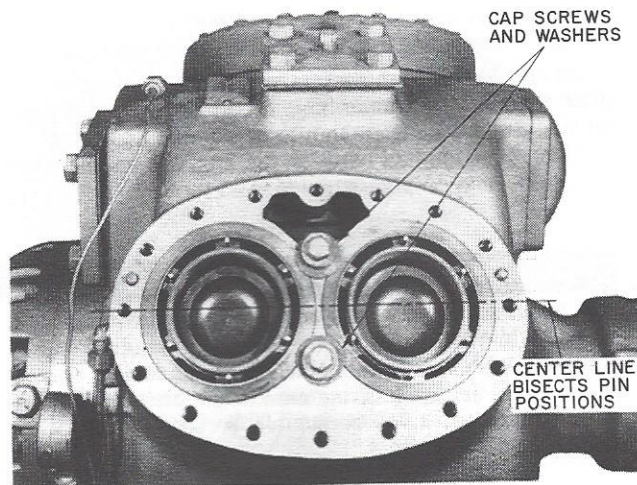

Fig. 34 - Position of Cylinder Sleeves
6. Rotate sleeve so that any 2 valve lifter-pin holes lie equal distances from longitudinal axis of compressor (Fig. 34). In this position, lifter pins line up with suction valve springs.